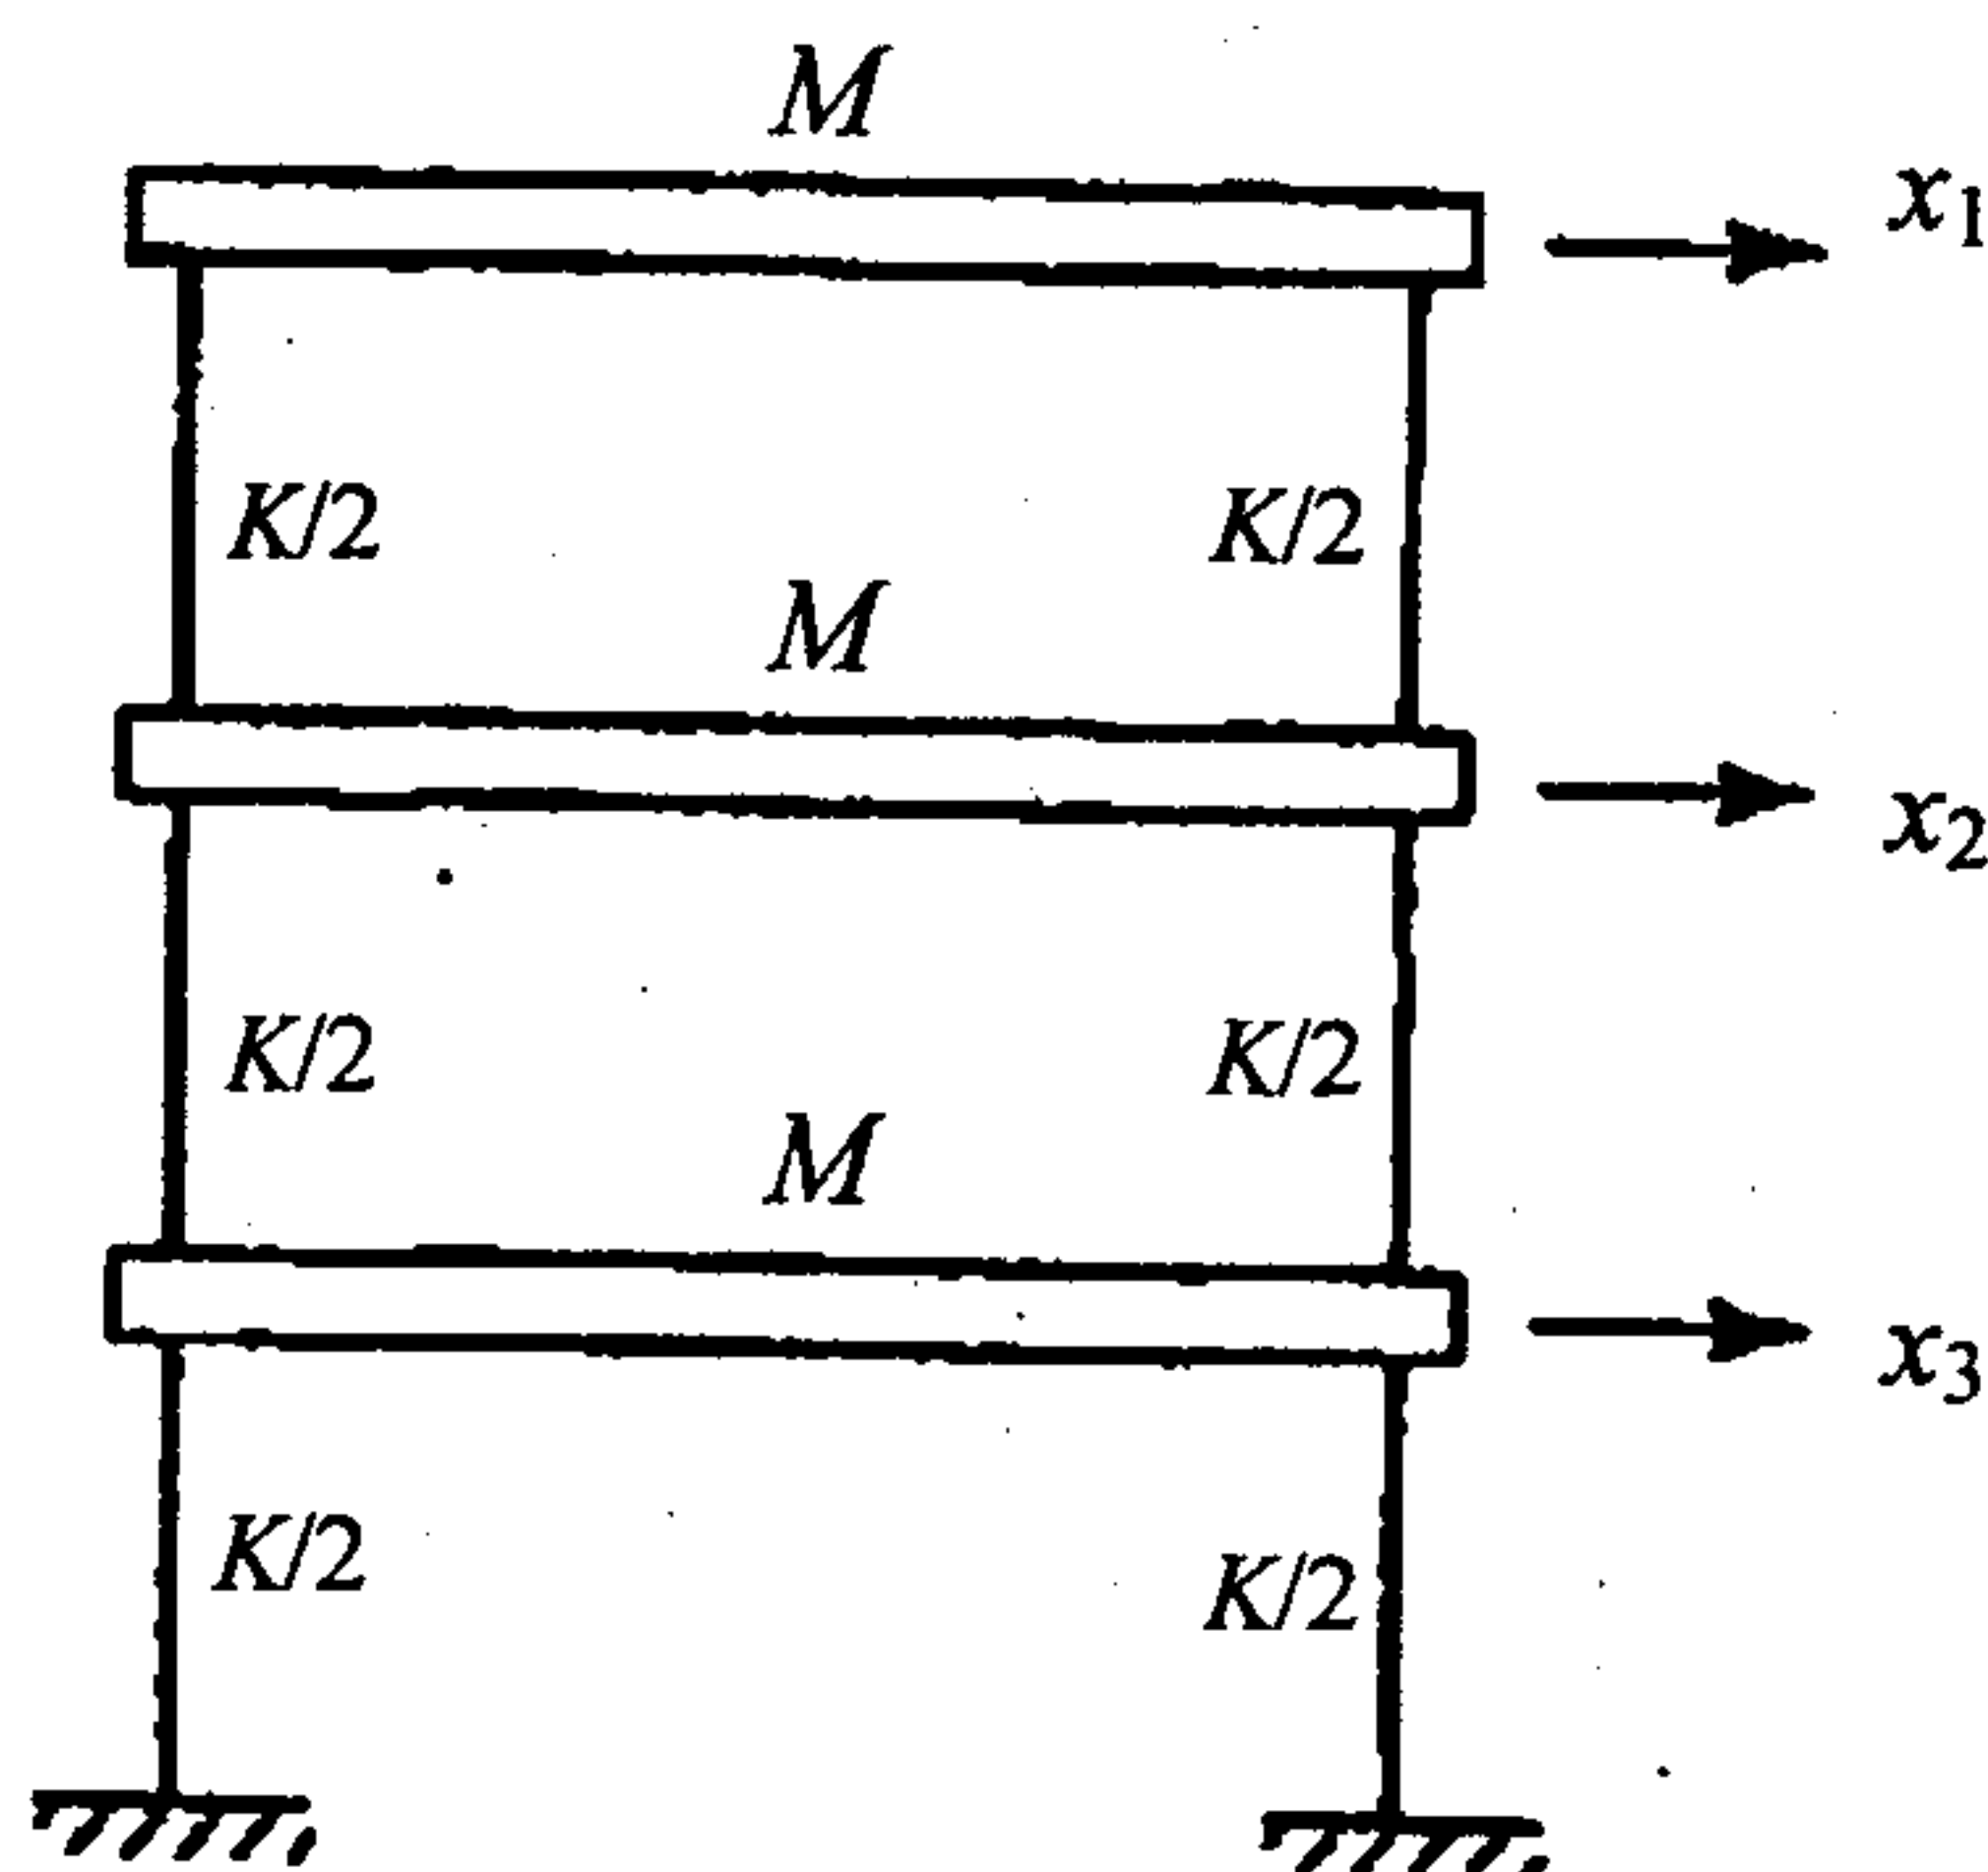

Fig. 14 (a) Three-storey shear structure.
- (ii) Establish any two shape functions corresponding to one corner node and one mid-node for an eight node quadrilateral element. (6)
14. (a) Use iterative procedures to determine the first and third eigen values for the structure shown in fig 14(a). Hence determine the second eigen value and the natural frequencies of building. Finally, establish the eigen vectors and check the rest by applying the orthogonality properties of eigen vectors.